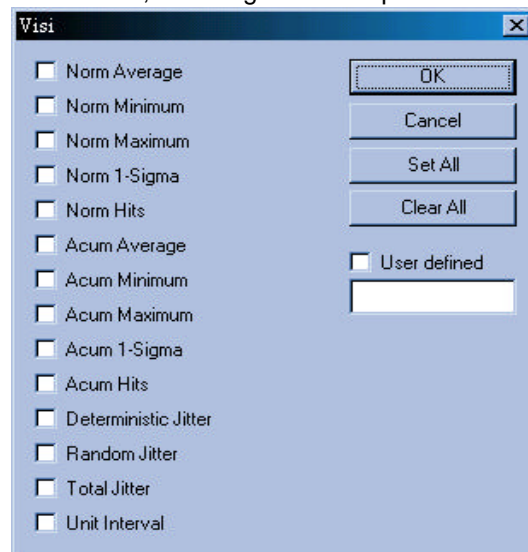
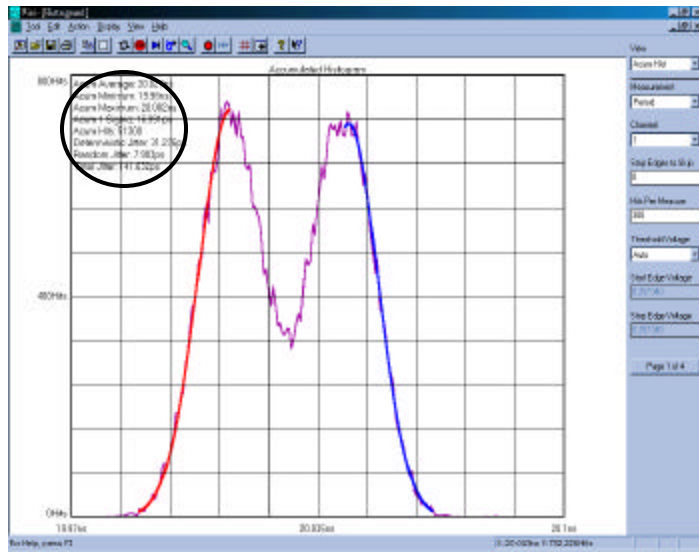

Figure 11. Values on Plot – Options
Figure 12. Example of Values on the Plot
- In the Menu bar portion of the VISI screen, go to **Display**. Then to **Values on Plot...** From the list of choices (refer to figure 11), select specific measurement values for display. These will appear directly on the plot. See Figure 12.